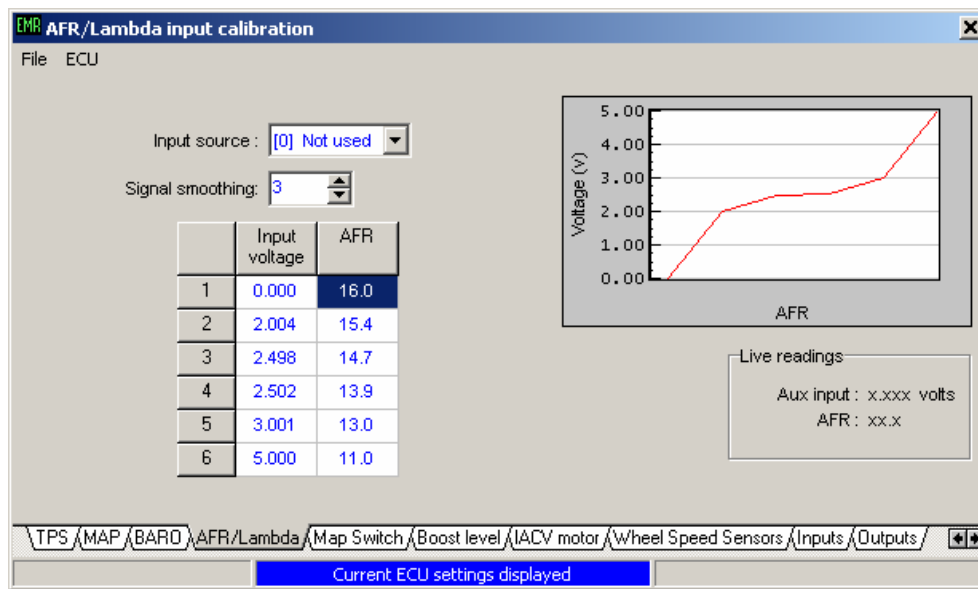

figure 1.
- The voltage/AFR table must be filled in as shown in figure 1 below :-